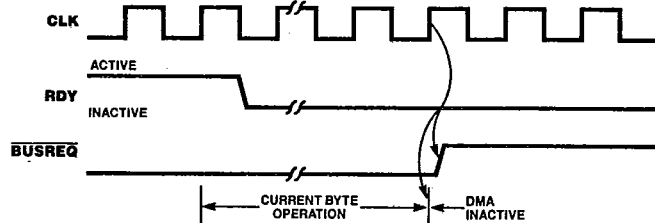

Figure 18. Bus Release When Not Ready (Burst Mode)
**Bus Release on Not Ready.** In Burst mode, when RDY goes inactive it causes  $\overline{\text{BUSREQ}}$  to go High on the next rising edge of CLK after the completion of its current byte operation (Figure 18). The action on  $\overline{\text{BUSREQ}}$  is thus somewhat delayed from action on the RDY line. The DMA always completes its current byte operation in an orderly fashion before releasing the bus.